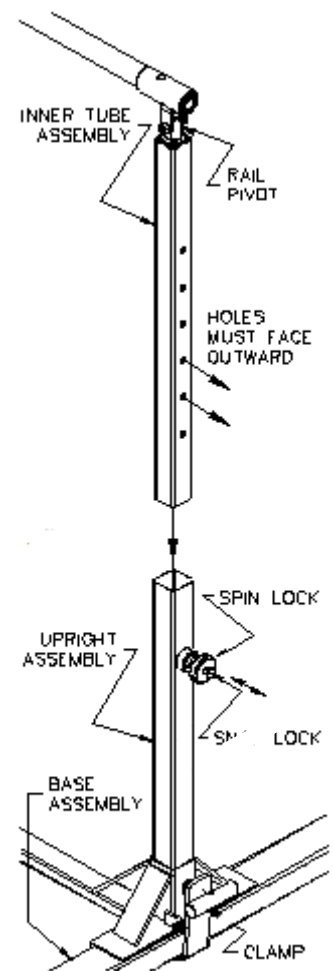

Fig. 5
2. Loosen the **Spin-Snap Lock** on each side of the Upright Assembly by turning the Spin Lock portion (round disc) **COUNTERCLOCKWISE** (See Fig. 5) until it stops.
3. Prepare to slide the Rail & Adjusting Tube Assembly into the Upright Assembly (See Fig. 5). Lower the Rail & Adjusting Tube Assembly into the Uprights. Pull outward on the Snap Lock Device. Once the Adjusting Tube reaches the pin, lower the rail while releasing the Snap Lock Device until the 1st Adjusting Tube hole allows the pin to fall into the locking hole. **The Snap Lock Device is now engaged.**